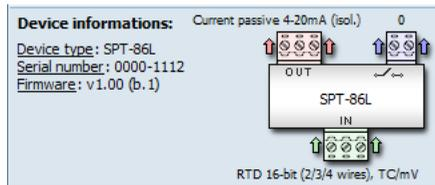

Figure 6.1. Additional information returned by the device
If the device supports this information, it can be found in the **Product Information** area (4) (Figure 6.1).